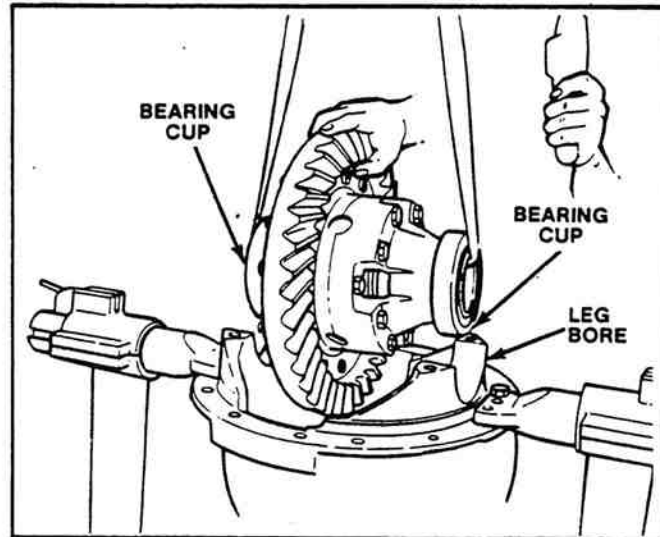

Figure 2-74. Installing Bearing Cups.
4. Install the bearing cups over the bearing cones that are assembled on the case halves (Figure 2-74).
5. Safely lift the differential and ring gear assembly and install into the carrier. The bearing cups must be flat against the bore between the carrier legs (Figure 2-74).